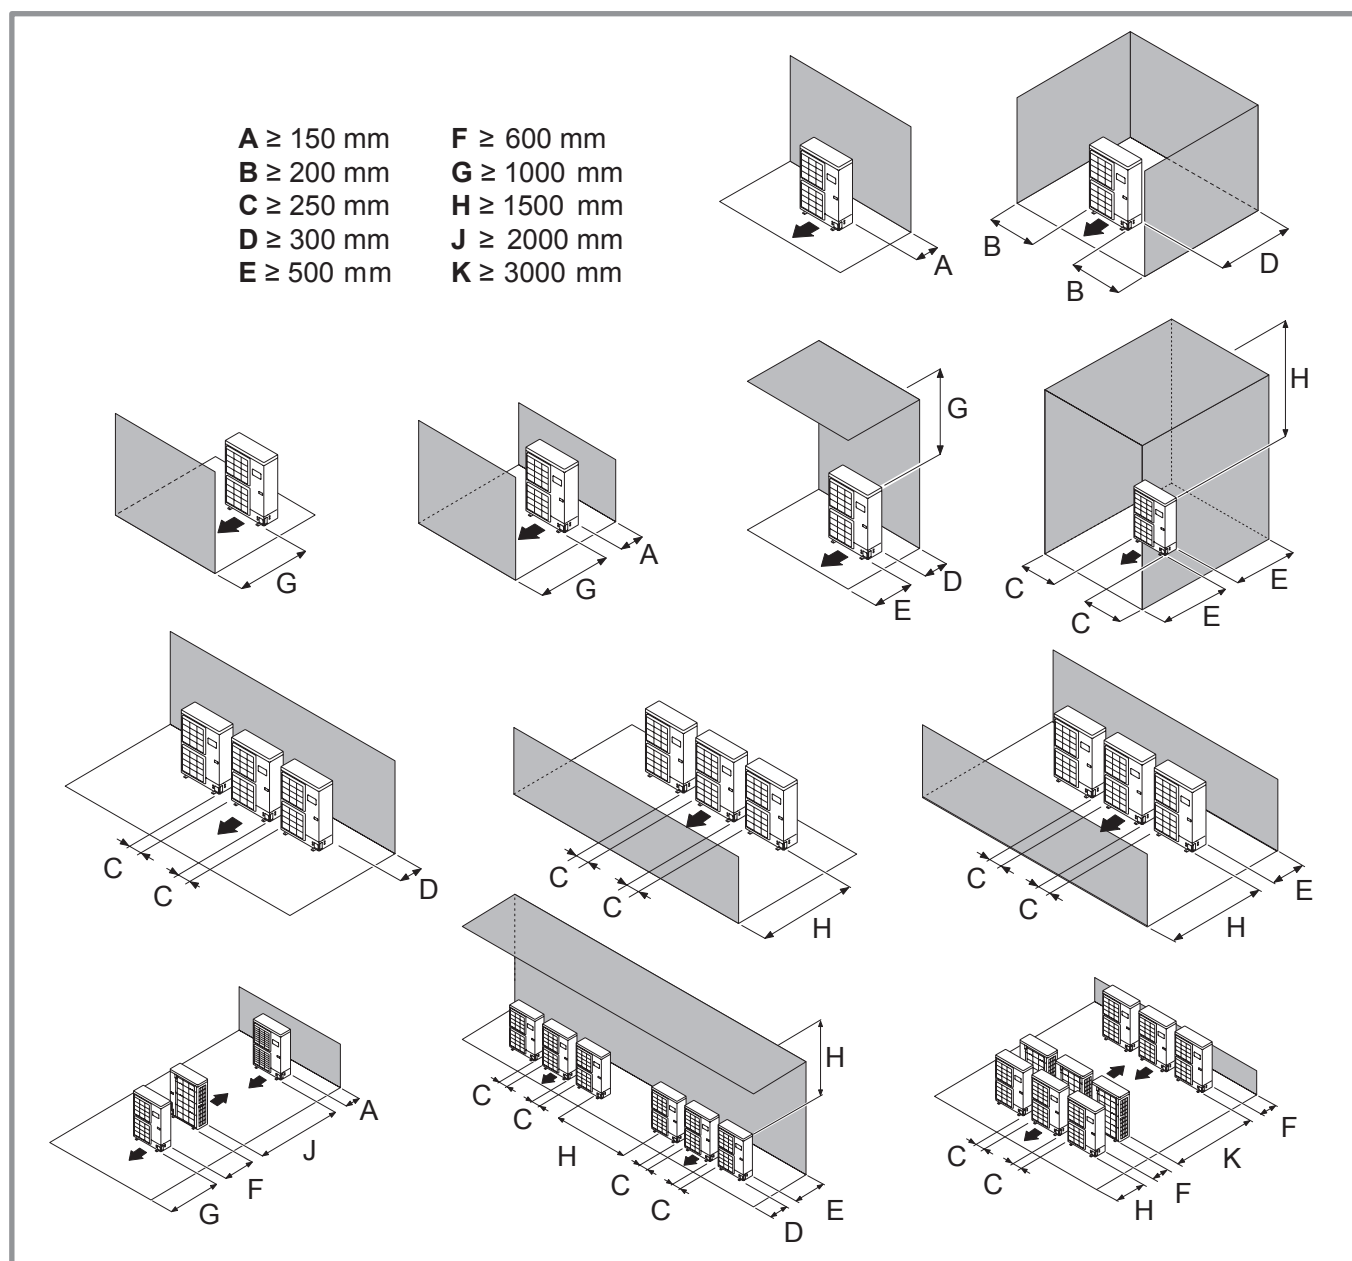

figure 13 - Minimum installation clearances around the outdoor unit (all models)
- ☞ **The outdoor unit must only be installed outside. If a shelter is required, it must have broad openings on all 4 sides and installation clearances must be observed (figure 13).**
- The unit must be easily accessible for future installation and maintenance work (figure 13).
- Nothing should obstruct the air circulation through the evaporator and out from the fan (figure 13).